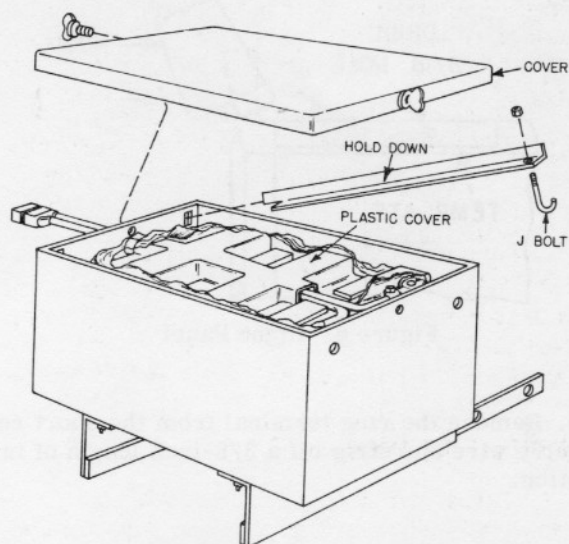

Figure 11. Hold-Down Clamps
11. Place the plastic cover over the batteries, but inside the top edges of the bag, making sure the battery cables go through the cut-out at the left end of the cover. Adjust the cables to fit in the center raised portion of the cover. See Fig. 11.
12. Attach a threaded "J-bolt" in the end hole of each hold-down angle clamp. Secure by installing a lockwasher and nut on the first few threads of each bolt. See Fig. 11.
13. Place the hold-down angle clamps along the sides of the battery cover, outside the top edges of the bag so the bag is between the cover and the clamps. Notice that there is a front and a rear clamp. See Fig. 11.
14. Install the box cover and secure with a thumb screw at each end. See Fig. 11.